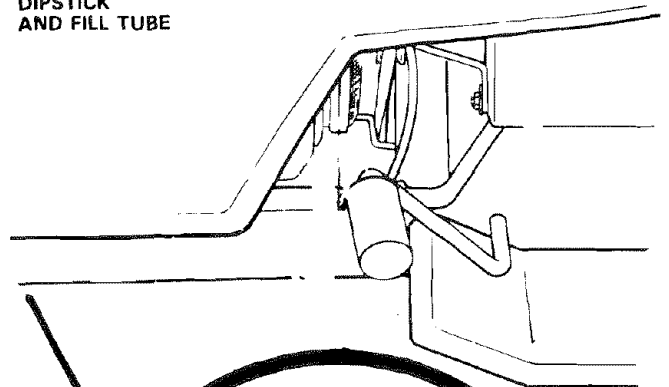

FIGURE 20
- c. Loosen oil drain wing nut (Fig. 20 - Inset). Catch oil in a suitable container.
Several minutes after stopping engine, check engine oil level with tractor on level ground. Wipe dipstick (Fig. 20) clean, screw it down tight for a few seconds, remove and read oil level. If necessary, add oil until "FULL" mark is reached. NOTE: DO NOT OVERFILL.